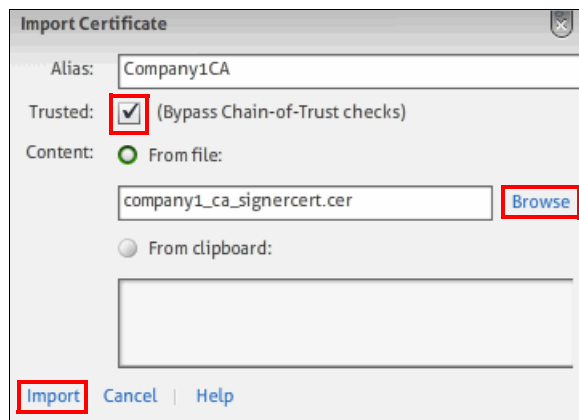

Figure 5-35 Import a signer certificate details
2. Specify the certificate alias and the file to import, as shown in Figure 5-35. Because the signer certificate does not contain a private key, it is not secured using a password. If the certificate is not signed by a trusted CA, select the **Bypass Chain-of-Trust checks** option. Click **Import**, as shown in Figure 5-35.